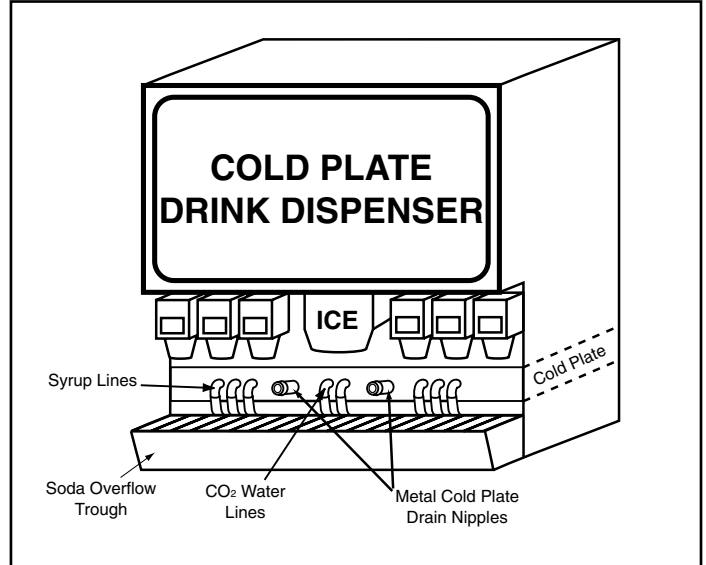

Figure 3. Remove Tubing From Dispenser
2. Remove all existing tubing from the exit points on the cold plate, as shown in Figure 3.